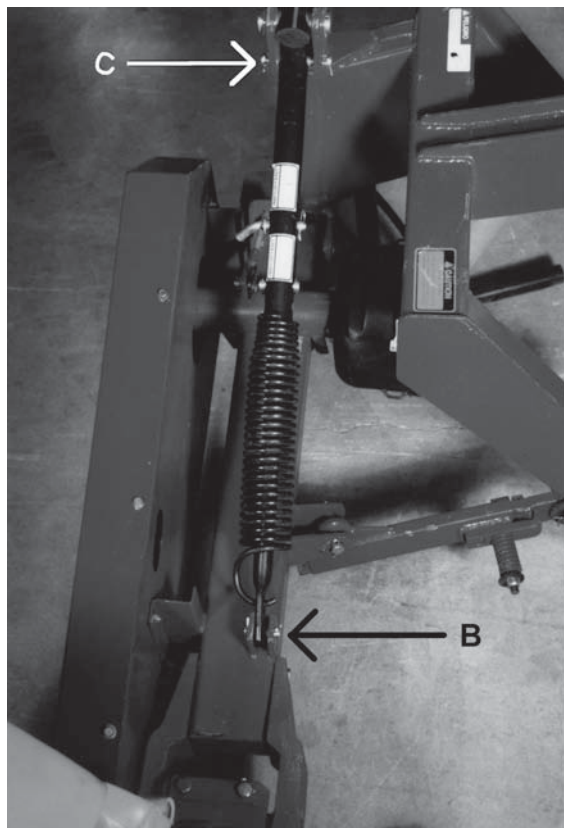

Figure 3
4. Attach the suspension spring and suspension tube assembly to the main frame and 3-point frame using a Short Suspension Tube Pin (B) at the main frame and a Suspension Rod Pin (C) at the 3-point frame. Secure both pins with cotter pins. (See **Figure 3.**)
5. Install the Break Away Slide (D) into the rear clevis of the 3-point frame as shown in illustration 4. Secure with a pin and cotter pin as shown.